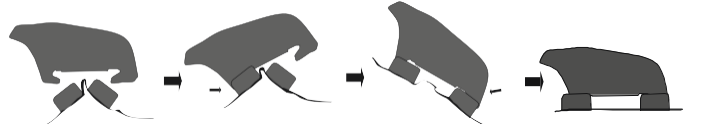

Fig. 1
2. Assemble the removable fin to the bottom of the board (Fig.1). Make sure the curvature of the fin is pointed towards the back end of the board (Table 1 pos.4)